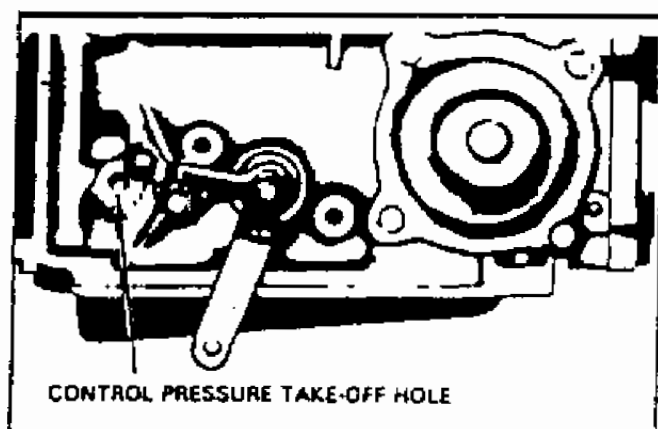

Figure 15
2. If the above fluid condition is not evident, road test the vehicle to determine if line pressure cutback is occurring. Attach a pressure gauge to the line pressure port of the case (Figure 15). Cutback should occur between 10 mph and 16 mph. If line pressure cutback is not observed, then the governor is not operating properly.